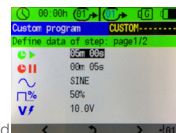

Fig. 17d
2. **DEFINE DATA OF STEP - PAGE 1/2** (Fig. 17d): Once you have confirmed the name of your program the next page is the first step of your program. Here you define the parameters of the first step. **NOTE: for each Step you will have to fill in 2 pages of parameters (also see: Define Data of Step - Page2/2).**